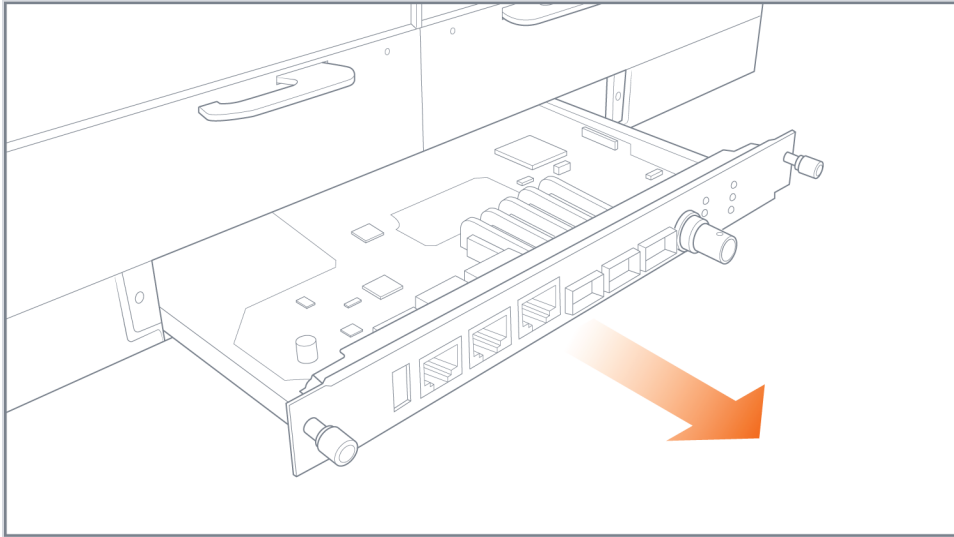

Figure 16: Extension Board Removal
4. Pull out the extension board as shown in Figure 16: Extension Board Removal on page 83.